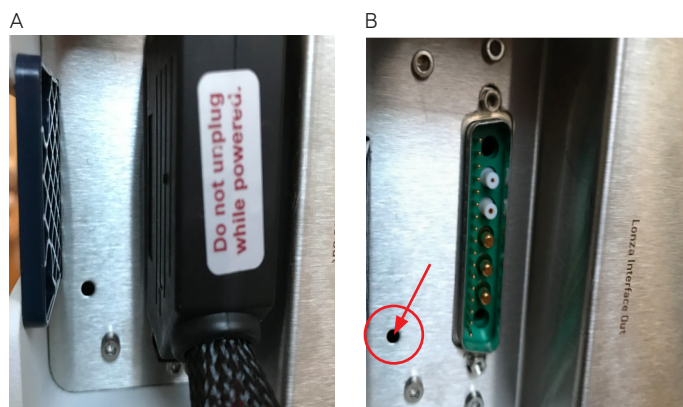

Figure 3.1: (A/B) Rescue of samples
- Remove the terminator cap or cable connection to next unit (Figure 3.1, A).
- Insert the hexagon screw driver supplied with the 4D-Nucleofector® System in the hole. (Figure 3.1, see arrow)